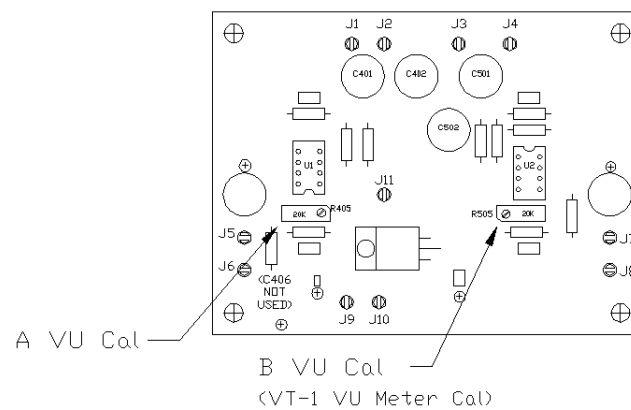

Fig. 5 VU Meter Amplifier PCB
5. Set the Meter Calibration trimmer potentiometer for 0 VU on the VT-12 meter(s). Be sure the meter is turned on. This control is a 25-turn pot so the adjustment is easy. A small screwdriver or alignment tool is necessary. The controls are located on the meter amplifier printed circuit board on the top of the chassis and they are the only trim pot(s) on the VT-1/VT-12. See Figure 5 on page 38.